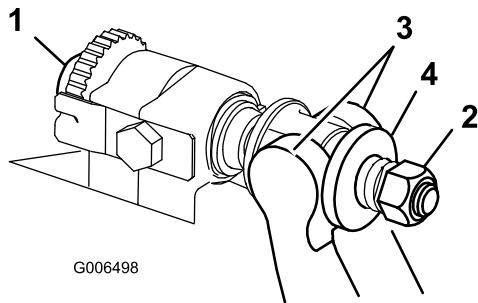

Figure 29
1. Turn bedbar adjuster screws counterclockwise to back the bedknife away from the reel (Figure 29).
2. Back out the spring tension nut, until the washer is no longer tensioned against the bedbar (Figure 29).